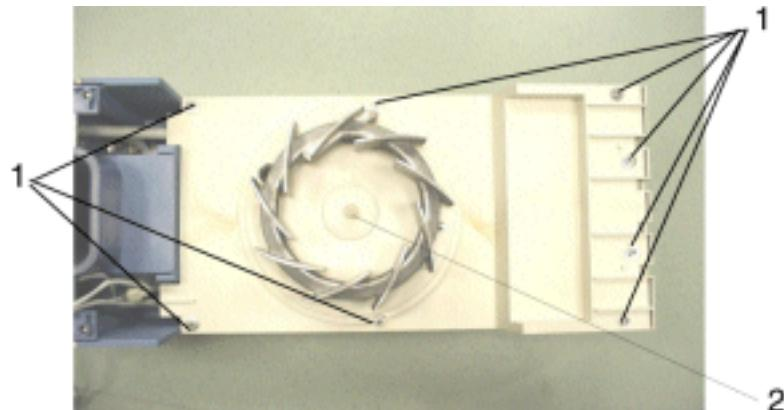

Fig. 218 Front view of the air heater
4. Carefully remove rubber sleeve (2) from shaft of fan motor, see Fig. 218.
5. Remove screws and washers (1), see Fig. 218.